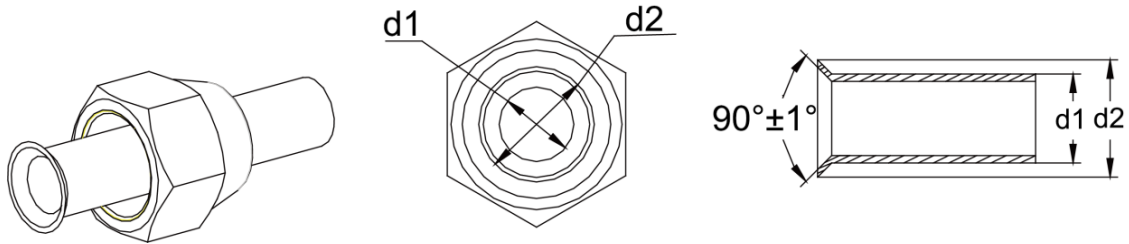

Fig. 4.3.1
- (1) Use pipe cutter to cut the connection pipe in case it is unshaped.
- (2) Keep the pipe downward in case cutting scraps get into the pipe. Clear away the burrs after cutting.
- (3) Remove the flared nut connecting indoor connection pipe and outdoor unit. Then use flaring tool to fix the flared nut into the pipe (as shown in Fig. 4.3.1).
- (4) Check if the flared part is flaring evenly and if there is any crack.